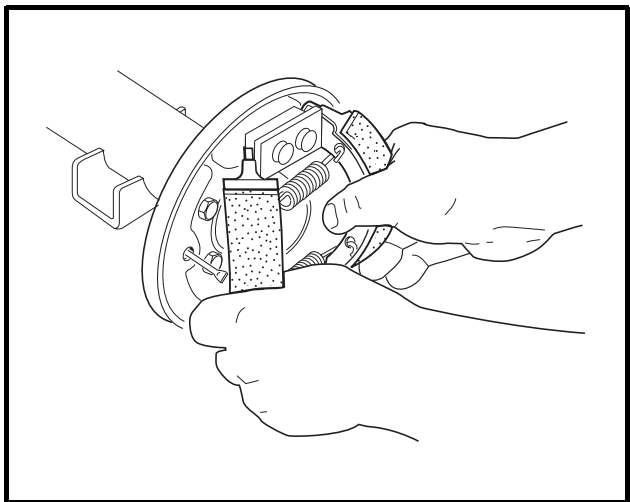

Figure 6-6 Remove Brake Shoes
10. Grasp both brake shoes and pull them, together with the springs, out of the brake assembly as shown (**Figure 6-6, Page 6-4**).